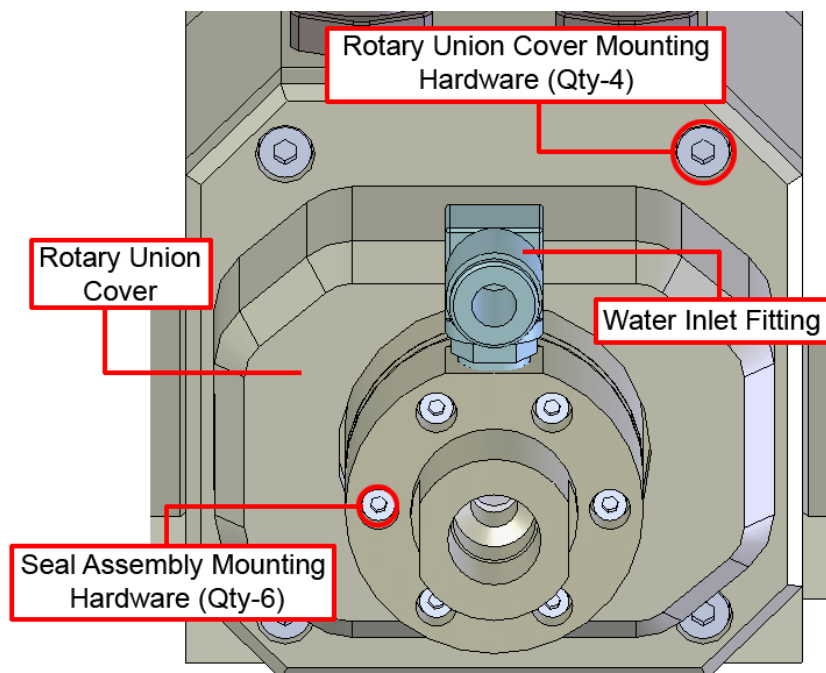

Figure 4-5: Rotary Union Hardware Removal
2. To access the rotary union seal assembly, first remove the water inlet fitting (see Figure 4-5).
3. Remove the six seal assembly screws from the rear end of the rotary union (see Figure 4-5).